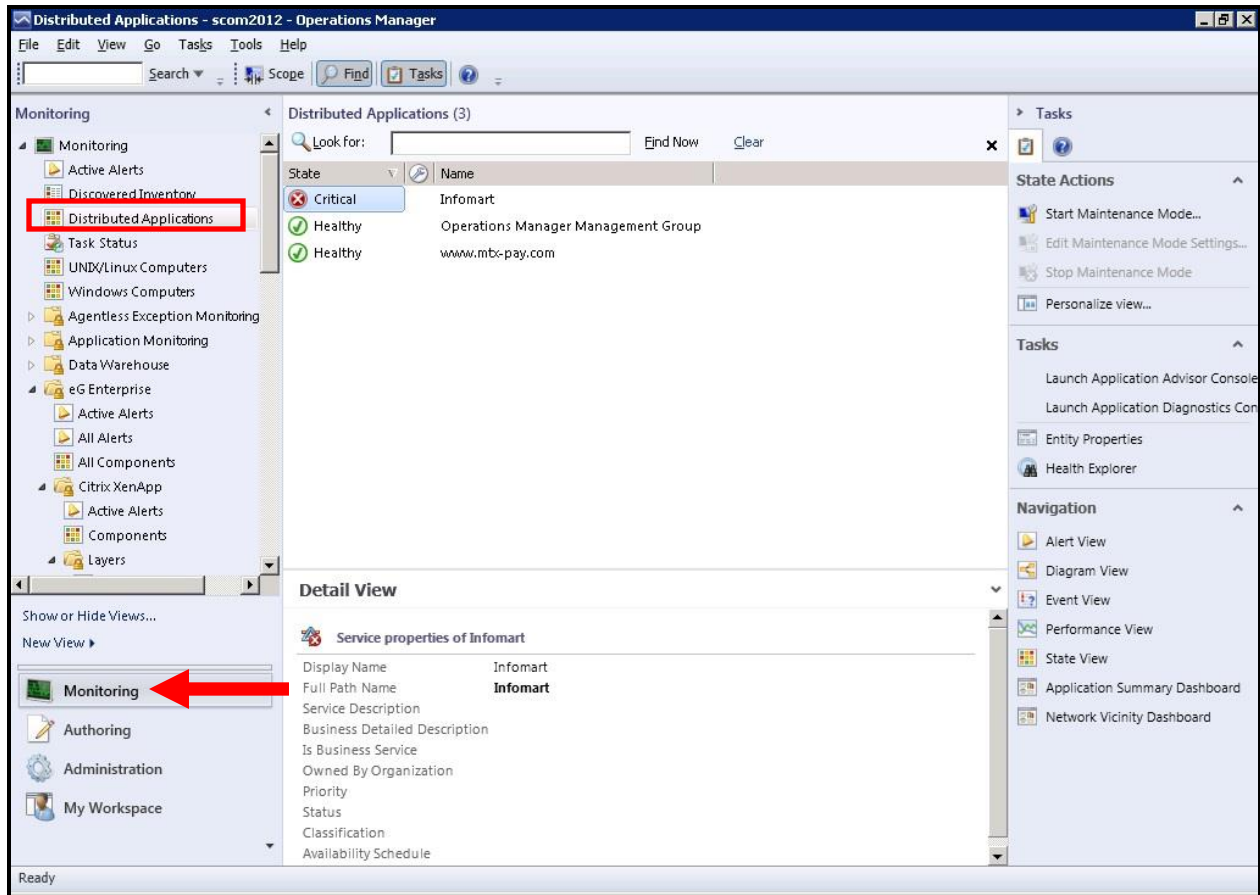
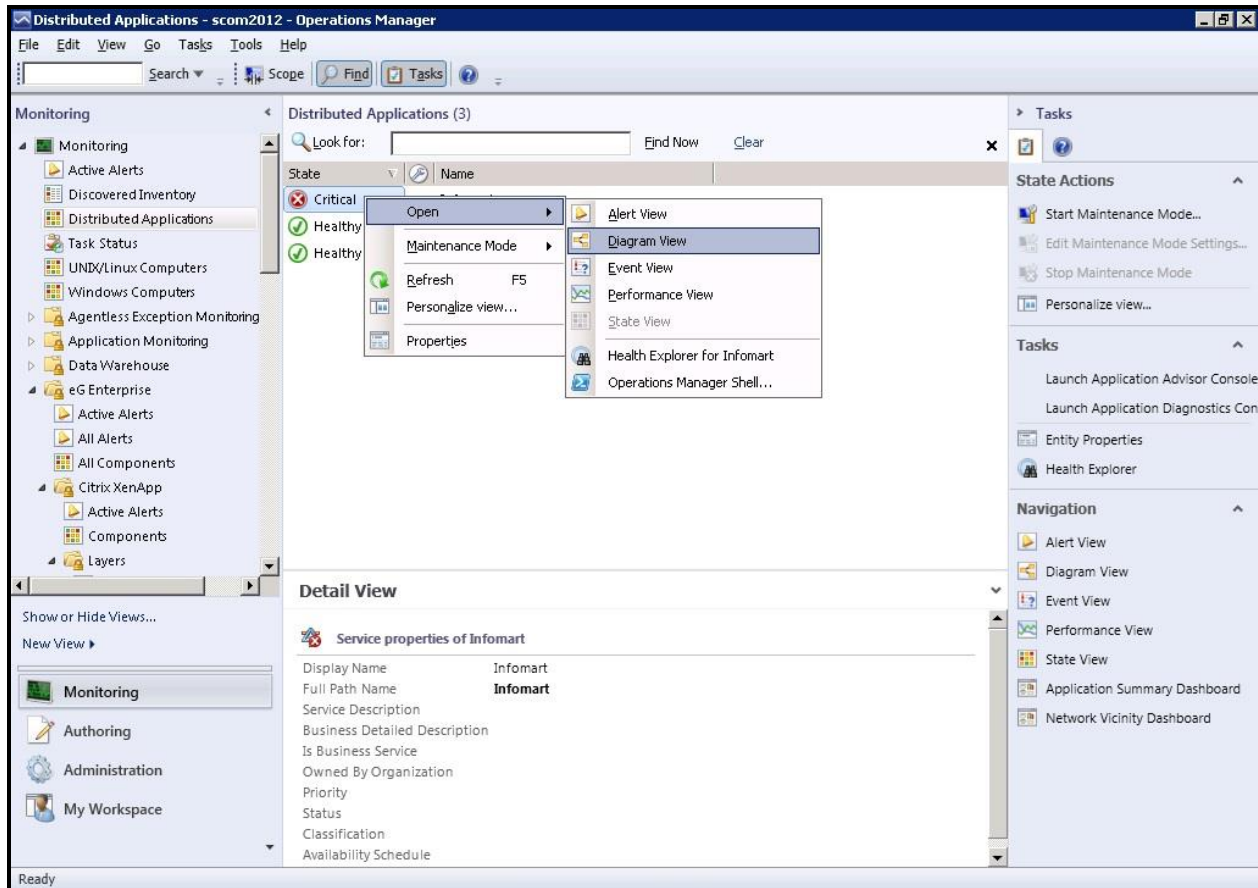

Figure 3.37: Viewing the state of the Infomart distributed application in the Monitoring mode
Figure 3.38: Accessing the topology map of the Infomart application in the Monitoring mode
13. With that, the topology of the distributed application has been fully configured. Once eG Enterprise is integrated with SCOM, the SCOM connector updates the state of the distributed application and its member components based on state computations performed in eG. To view the current state of the *Infomart* application, move to the **Monitoring** view, by clicking on the **Monitoring** tab page indicated by Figure 3.37. Then, click on the **Distributed Applications** sub-node in the **Monitoring** tree-structure in the left panel of Figure 3.37.
14. The right panel of Figure 3.37 will then display all the **Distributed Applications** that have been configured and their current state. From Figure 3.37, it is evident that the *Infomart* application is in a **Critical** state. To know which component engaged in the delivery of the *Infomart* application is responsible for this **Critical** problem, view the topology map of the *Infomart* application. For this, right-click on the **State** of that application (which is currently, **Critical**), and follow the menu sequence: Open -> Diagram View (see Figure 3.38).